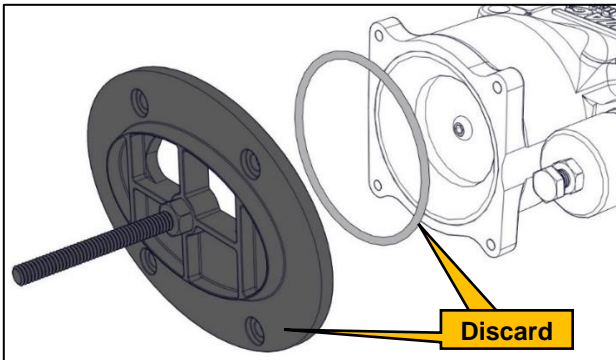

Figure 3 – Remove the filter plate and O-ring
- Discard the filter plate and O-ring (Figure 3).